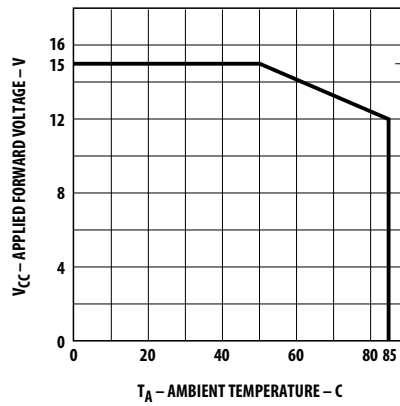

Figure 4. Maximum allowed applied forward voltage vs. ambient temperature  $R\theta_{JA} = 175^{\circ}\text{C}/\text{W}$ . 12 volt devices.
- Derate from TA = 50°C at 0.086 V/°C, see Figure 4.